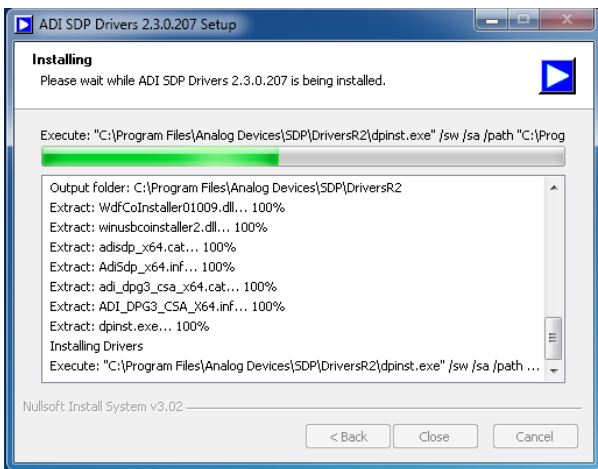

Figure 14. **Installing**
4. The installation begins, and a progress bar shown in Figure 14 is displayed.